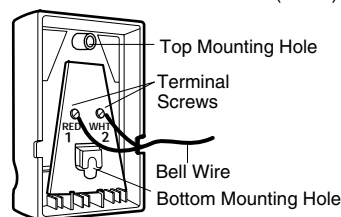

Figure 4 REMOVE COVER
- Remove white cover by gently prying at slot in top of the cover with a small flat head screwdriver. (Figure 4). Fasten with 6ABx1-1/4" self-tapping screws (drywall installation) or 6-32x1" machine screws (into gang box) as follows: